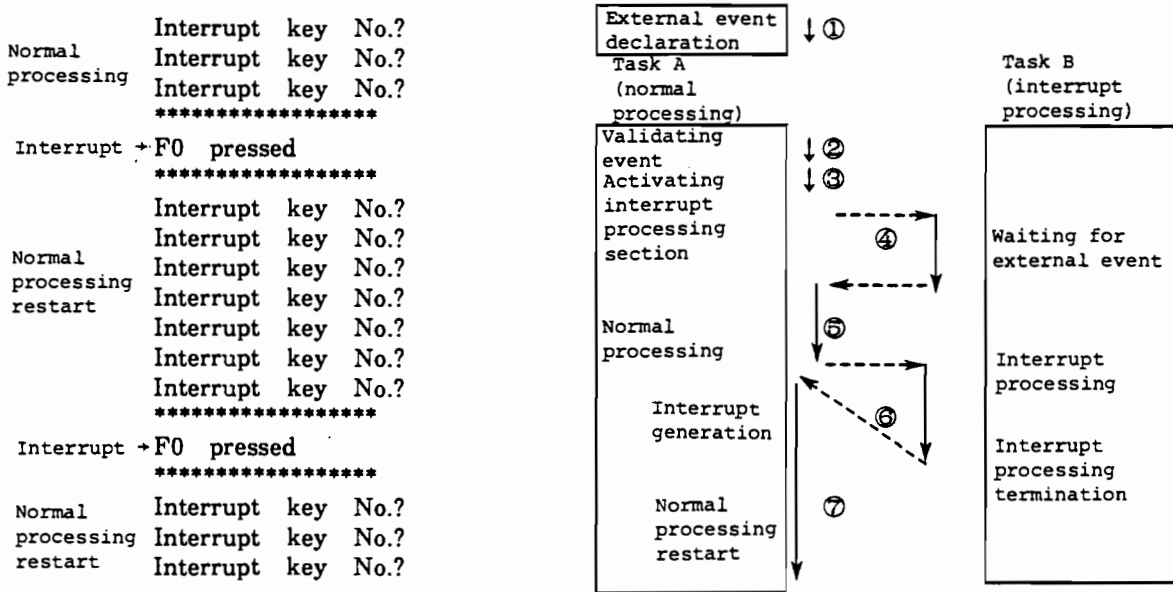

Fig. 12-5 Interrupt Parallel Processing using Function Keys
Items ① to ⑦ in Fig. 12-5 are explained as follows.
- ①: Declare event GOTOB for the entire program on line 10 to ensure the correct operation of the interrupt processing section of task B. Without this declaration, lines 50, 60, and 140 have no meaning. Lines 10 and 60 affect the entire program.
- ②: Line 50 declares the function key 0 as an interrupt source and validates the event declared on line 60.
- ③: Line 70 activates the interrupt processing section (task B).
- ④: Execution control jumps to task B due to priority (task A < task B) and waits for an interrupt to be generated at line 140.
- ⑤: Execution control returns to task A for normal processing.
- ⑥: Each time an interrupt is generated by pressing the function key 0, normal processing (Interrupt key No?) is interrupted and the interrupt processing (F0 pressed) is executed.
- ⑦: Normal processing restarts when interrupt processing is completed and wait status is entered.
- (2) Program for displaying status values by interrupt parallel processing